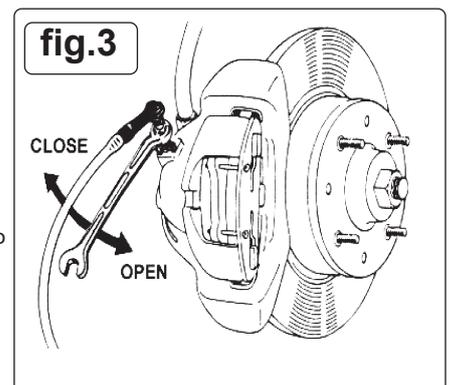

fig.3
- 4.1.7. Starting from the bleed nipple furthest away from the master cylinder, attach a bleed tube and place the other end into a suitable container. Loosen the bleed nipple (fig.3) to allow the old brake fluid to flow into the container, when the fluid is clean and free from air re-tighten the nipple.